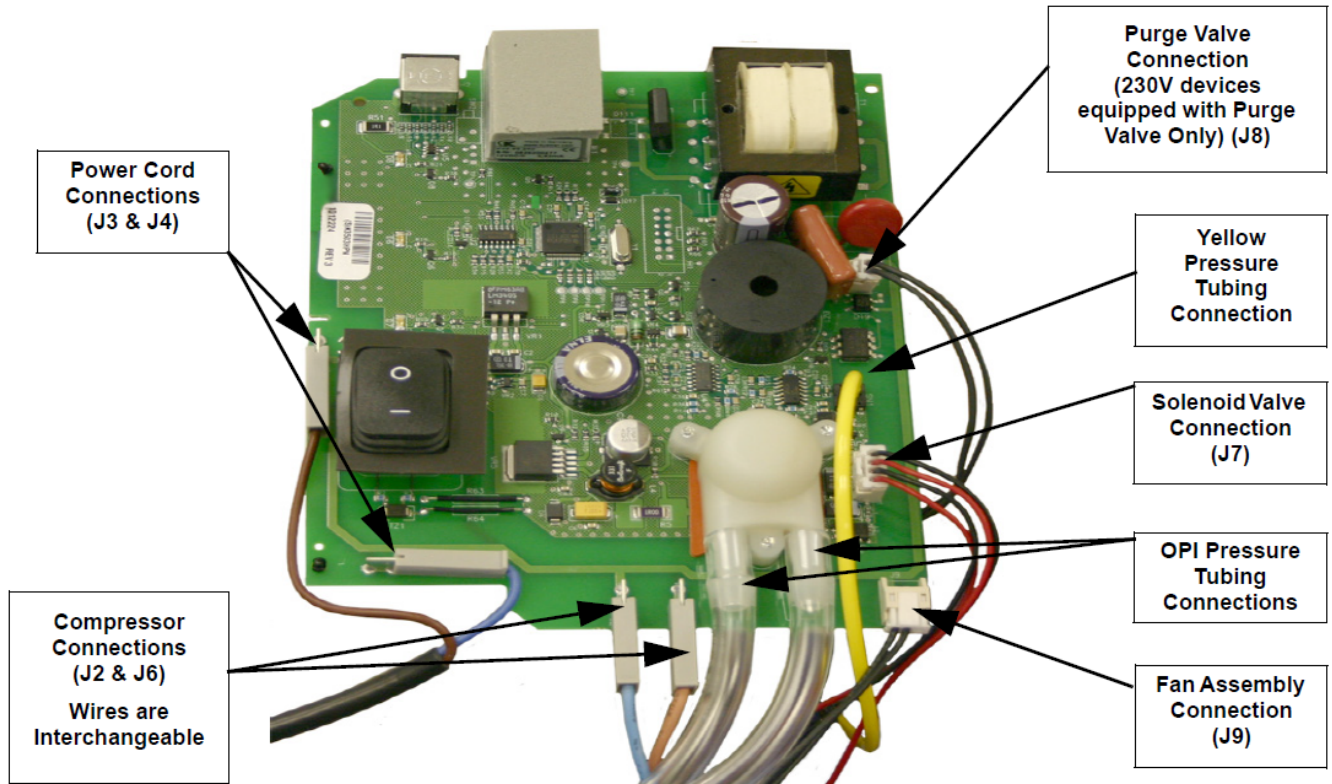

Figure 8-15: CONNECTION POINTS ON THE MAIN PCA
5. Remove the Power Cord Connectors from the J3 and J4 locations of the Main PCA. Refer to Figure 8-15.
6. Remove the Fan Connector from the J9 location of the Main PCA. Refer to Figure 8-15.
7. Remove the Valve Solenoid Connector from the J7 location of the Main PCA. Refer to Figure 8-15.
8. Remove the Purge Valve Connector from the J8 location of the Main PCA (230V devices equipped with a Purge Valve Only). Refer to Figure 8-15.
9. Gently remove the yellow pressure line coming from the Pressure Regulator Adaptor from the pressure sensor (SN1) of the Main PCA. Refer to Figure 8-15.
10. Remove the two pieces of flow tubing from the OPI sensor on the Main PCA (OPI devices only). Refer to Figure 8-15.
12. Remove the Compressor Wires from the J2 and J6 locations of the Main PCA. Refer to Figure 8-15.
3. Connect the Valve Solenoid connector to the J7 location of the Main PCA. Refer to Figure 8-15.
4. Connect the Fan Connector to the J9 location of the Main PCA. Refer to Figure 8-15.
5. Connect the Compressor Connectors to the J2 and J6 locations of the Main PCA. The Compressor wires are interchangeable. Refer to Figure 8-15.
6. Connect the Purge Valve Connector to the J8 location of the Main PCA (230V devices equipped with a Purge Valve Only). Refer to Figure 8-15.
7. Connect the Power Cord Connectors to the J3 and J4 locations of the Main PCA. The long wire should be connected at J3 and the shorter wire connected at J4. Refer to Figure 8-15.